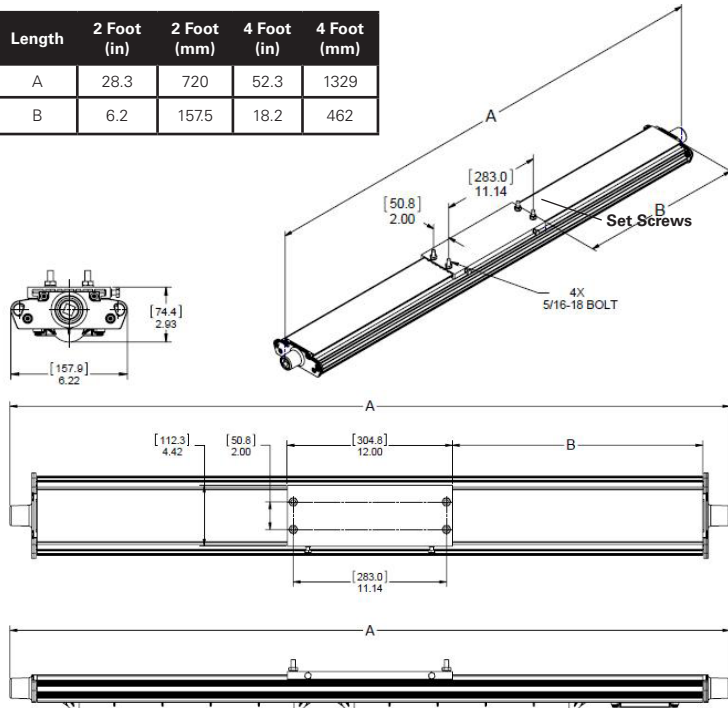

Figure 3. DP1057MTK Back Mount Installation
- For back mount, use the bracket as a template, mark and drill holes into the mounting surface and use supplied 5/16" bolts (see Figure 3).
- It is strongly suggested to use two (2) qualified tradespeople to proceed with the final mounting of the fixture. This is recommended to avoid any personal injury or damage to the fixture.
- Place the four (4) 5/16" bolts through the mounting plate and tighten evenly to the support structure. Minimum torque 138 in.-lbs. (15.6 N-m).
- Tighten the four (4) 1/4" set screws on the slide bracket until they bottom. Torque to 78 in.-lbs. (8.8 N-m).